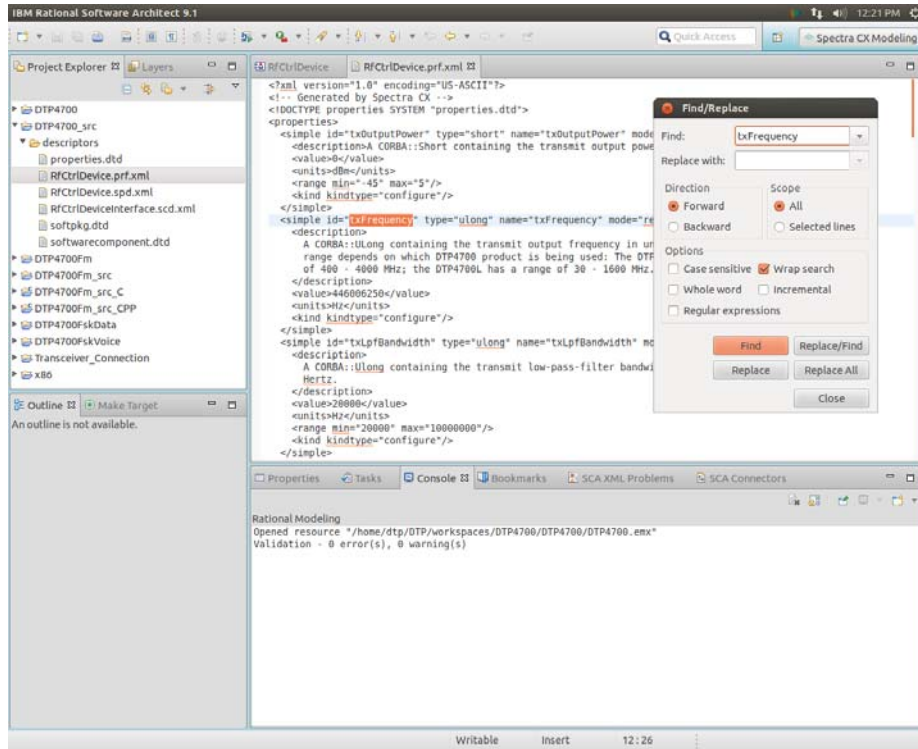

Figure 13 Profile descriptor
- Step 5:** Expand the DTP4700_src descriptors folder in the Project Explorer view to display the generated descriptor artefacts for the DTP4700 project. Double-click on the profile descriptor for the RfCtrlDevice component (RfCtrlDevice.prfl.xml) to view the file contents in Spectra. Using the file editor search for the text string 'txFrequency' to examine the XML elements describing the property, including the assigned default value. This is illustrated in *Figure 13*.